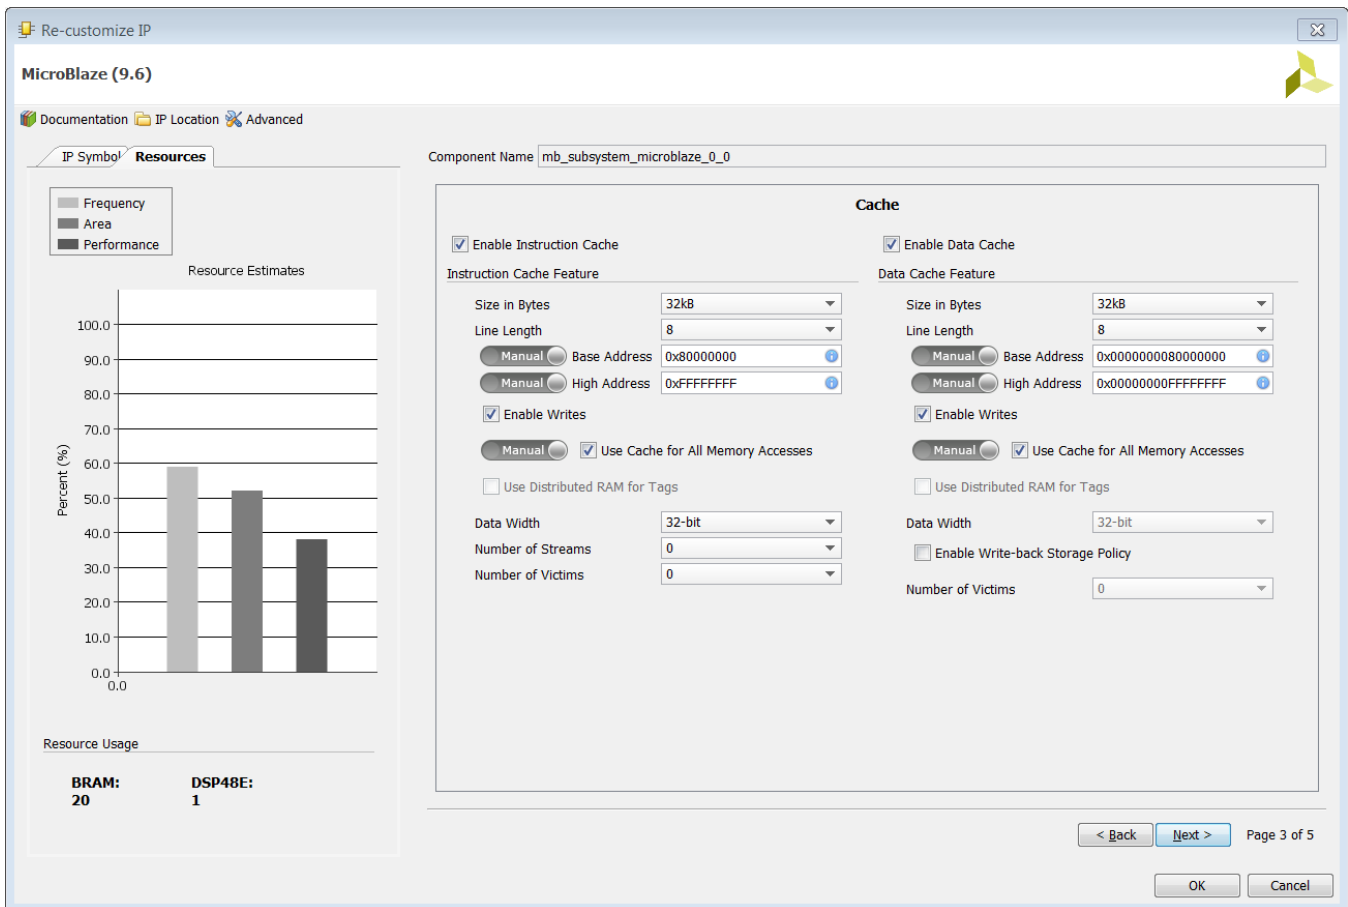

Figure 120: Setting Cache option for MicroBlaze
2. Double click on the MicroBlaze in the block design to re-configure it. Go to the Cache page (page 3) of the **Re-customize IP** dialog box, as shown in Figure 120. On this page, for both the **Instruction Cache** and **Data Cache**: